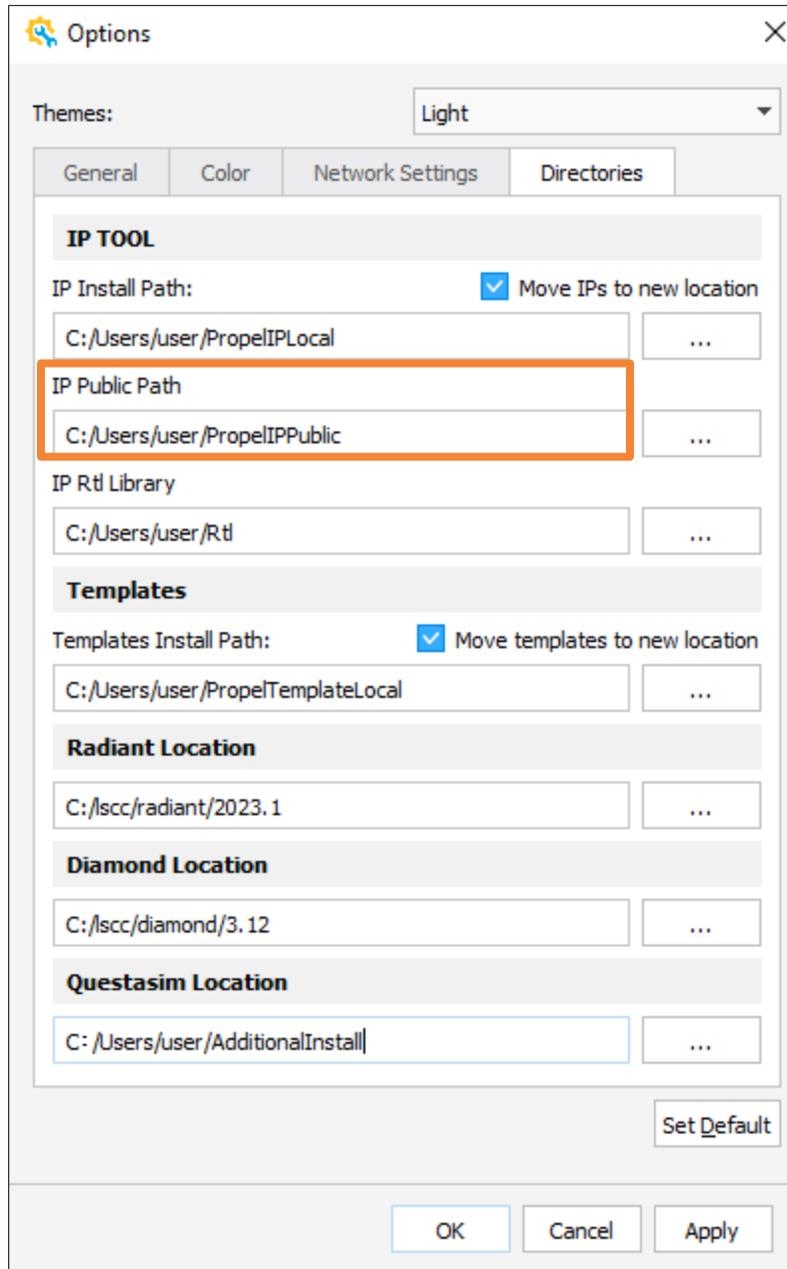

Figure 2.110. IP Public Path
- IP Public Path (Figure 2.110):